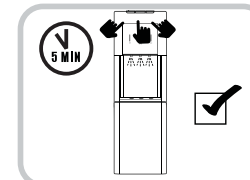

Fig.2
5. Plug the dispenser unit into the electrical outlet. Please review the IMPORTANT SAFETY INSTRUCTIONS and INSTALLATION GUIDELINES before doing so. The unit will start to fill the cold and hot water tanks (it will take approx. 5 minutes). Allow the water to settle into the cold and hot water tanks for 5 minutes. Push each water tap (hot and cold temperature) to ensure water is running through the unit. (Fig. 2)